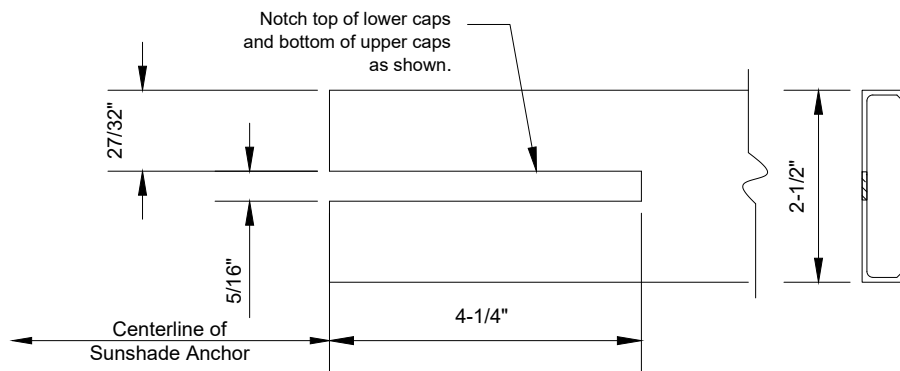

Figure 43
- 2) Face caps must be notched to clear the sunshade anchor. Face caps are cut at centerline of sunshade with a notch on each end. Notch per FIGURE 43.